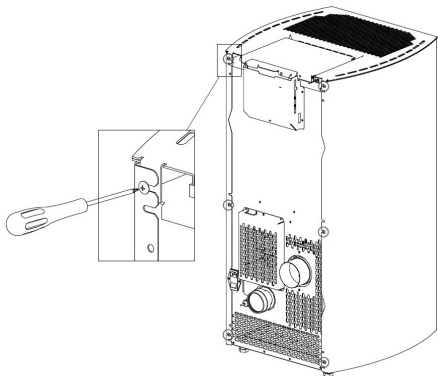

Fig. 56 - Loosen screws
- Loosen the 6 back screws (see **Fig. 56**).